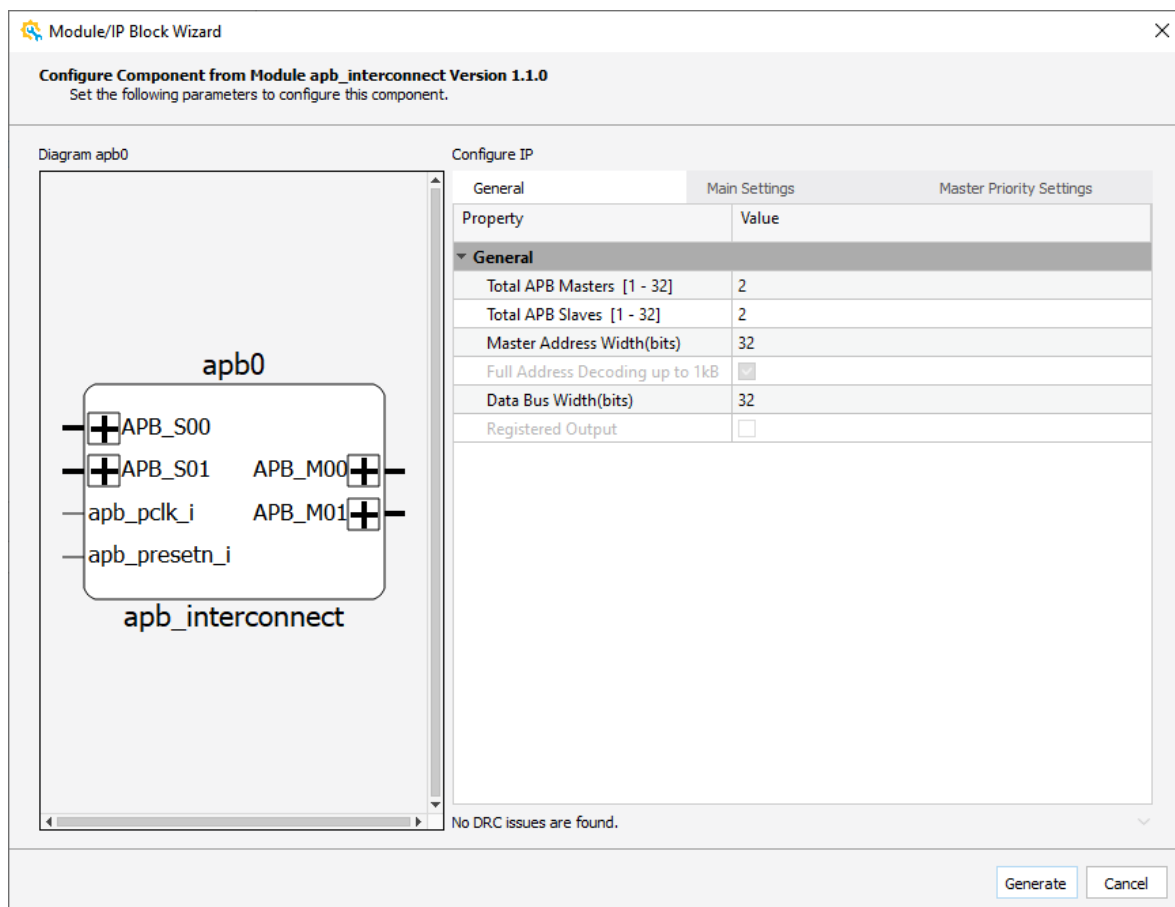

Figure 2.71. Module/IP Block Wizard – Configure Component
1. Double-click the module, or right-click the module you want to reconfigure. Choose **Reconfig**. The Module/IP Block wizard (Figure 2.71) opens.